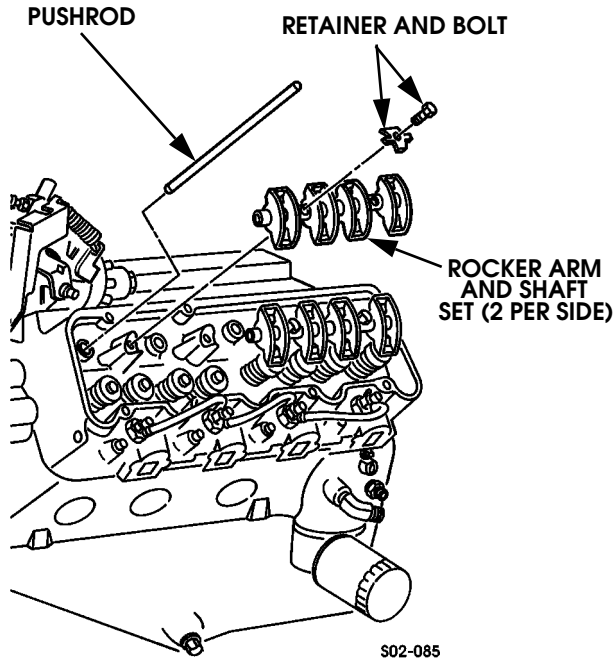

Figure 2-100: Rocker Arm and Shaft Removal
1. Remove rocker arm retainers and bolts (Figure 2-100).